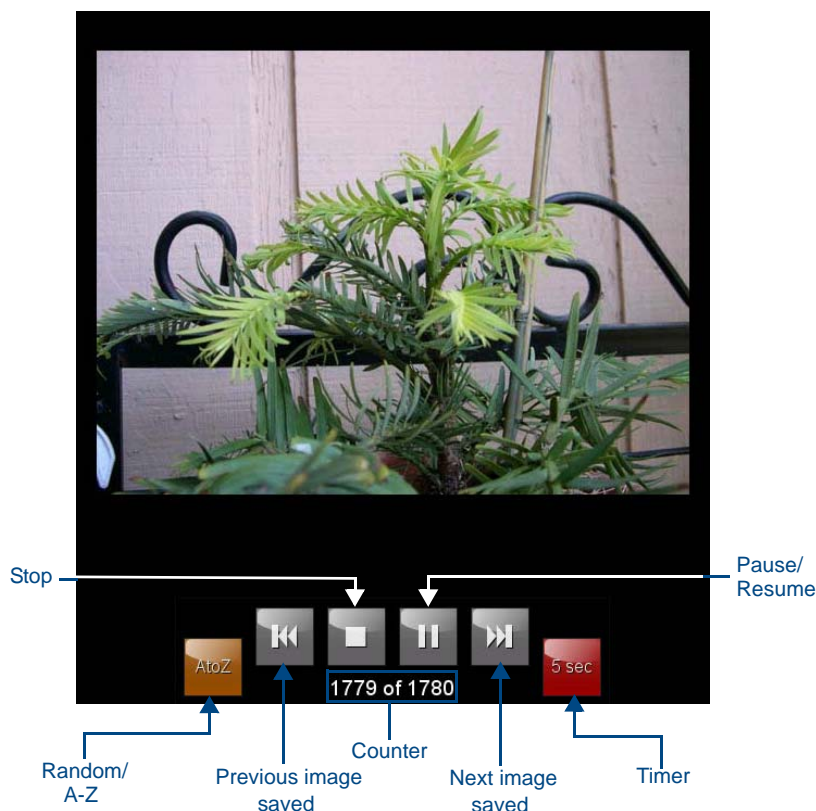

FIG. 8 Picture View configuration popup menu
2. When the images begin to display, touch any place on the touchscreen to open the configuration popup menu (FIG. 8). If no selection is made, this menu will remain in place for 15 seconds and then disappear. It may be accessed again by touching anywhere on the touchscreen.